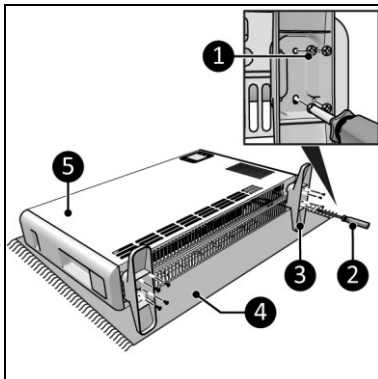

Figure 9
1. Lay the device down on a steady soft surface (Figure 9, pos. 4).
2. Place the pedestals (Figure 9, pos. 3) on both sides of the main body (Figure 9, pos. 5).
3. Screw and tighten the pedestals with the small screws (Figure 9, pos. 1) using the two center and two outer holes, with a Phillips screwdriver (Figure 9, pos. 2).